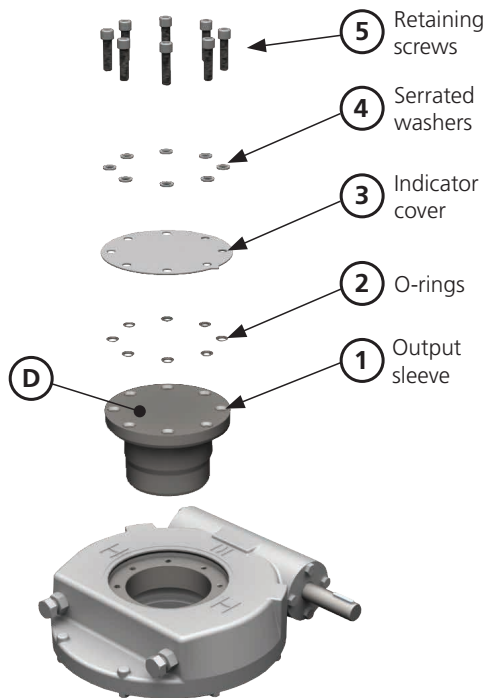

Figure 1 – Output sleeve arrangement
All gearboxes except for IW12 to IW17 and HOW13 have a removable output sleeve (item 1, Figure 1). Unless specifically requested at the ordering stage, the output sleeve will be supplied blank and must be machined to suit the valve shaft.
Figure 1 shows the arrangement of the output sleeve in the gearbox. See Figure 2 for removing the output sleeve without damaging the sealing faces.
Referring to the item numbers in Figure 1, the output sleeve can be easily removed from the top of the gearbox by first removing the retaining screws (5). The screws are either serrated under their heads or are fitted with serrated washers (4). Then remove the indicator/cover plate (3).
Referring to Figure 1, O-rings (2) are used to seal the indicator plate, output sleeve and retaining screws. Upon final installation on the valve, screws (5) must be tightened to the correct torque figures as shown in Section 14, Table 10.
Before re-assembly, clean and de-grease the top face of the output sleeve, underside of the indicator/cover plate, and the socket head cap screws. Insert the screws and washers into the holes in the indicator/cover plate, as per Figure 1.
As detailed in Figure 1 and Figure 2, it is recommended that silicon sealant is applied to face 'D' to seal the indicator/cover plate to the output sleeve, taking care not to apply sealant to the O-rings (2) or the sealing faces with the O-rings. For acceptable sealants, see Table 4 in Section 8.1.